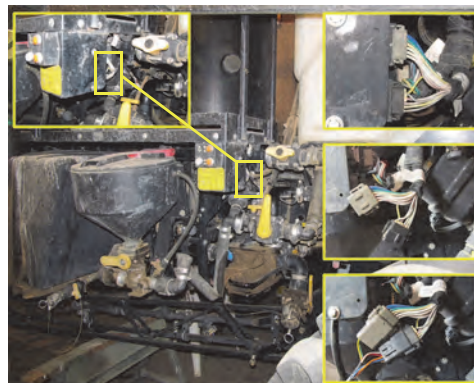

Figure 3b: Connecting product control cables
- b. Locate the existing single product node harness connectors on the left side of the machine directly behind the educator controls. They may or may not be connected (Figure 3b and top insets).
Disconnect or uncap the harness connectors as required and reconnect them to the routed branch connectors of cable A (Figure 3b, right middle and bottom insets).